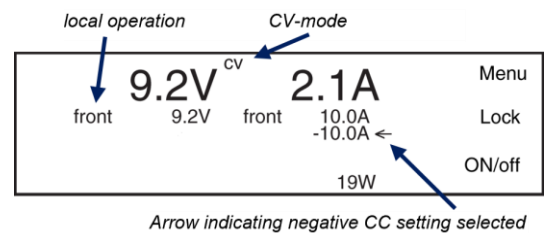

Figure 8.4: When the arrow appears behind the negative current settings, the sink current can be adjusted with the A-knob at the front panel.
- Set the function of the A-knob via Menu -> Front Settings -> Knobs: here select 'Iset-' or 'Iset+'. In the display the arrow behind the value for the current changes position. See Figure 8.4.